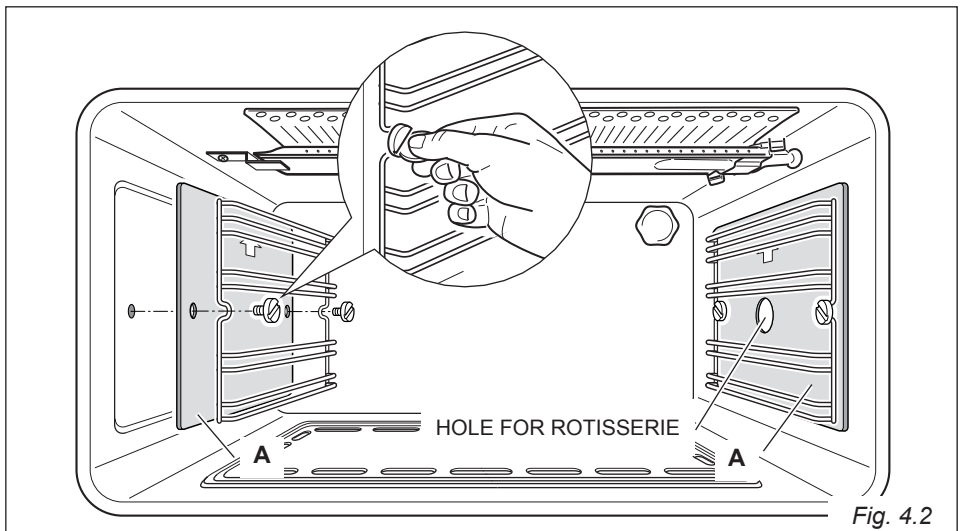

Fig. 4.2
- Assemble the wire racks to the oven walls using the 2 screws (fig. 4.2).
**In the models with catalytic panels supplied, interpose the catalytic panels "A" with the arrow up (fig. 4.2). The catalytic panel with the hole for the rotisserie must be positioned on the right oven wall. DO NOT INTERPOSE THE CATALYTIC PANEL WITHOUT THE HOLE ON THE RIGHT OVEN WALL.**
- Screw the side racks onto the oven walls (and the catalytic liners if supplied - fig. 4.2).